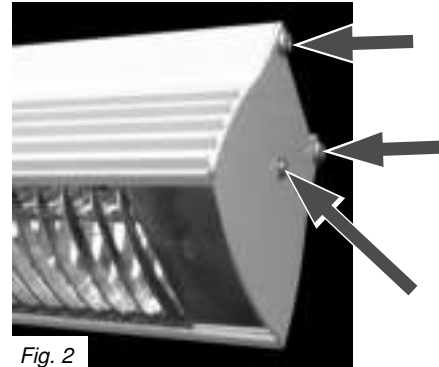

Fig. 2
2. Remove one of the heater end caps by removing the three screws with a pozi-head screwdriver as shown in Fig. 2.